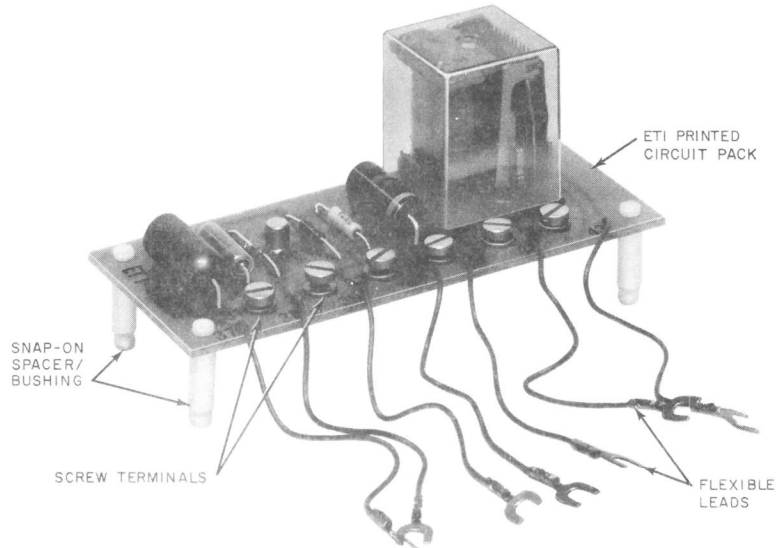

Fig. 14—ET1 Circuit Pack
**3.04** Installation of the DAS 830B-L1A, ET1 circuit pack (Fig. 14), and EC 833 break detection circuit is made at the service center (Fig. 15). The wiring for ET1 circuit pack arrangement with DAS 830B (Fig. 16) includes a send space timing circuit and a message-waiting lamp circuit.